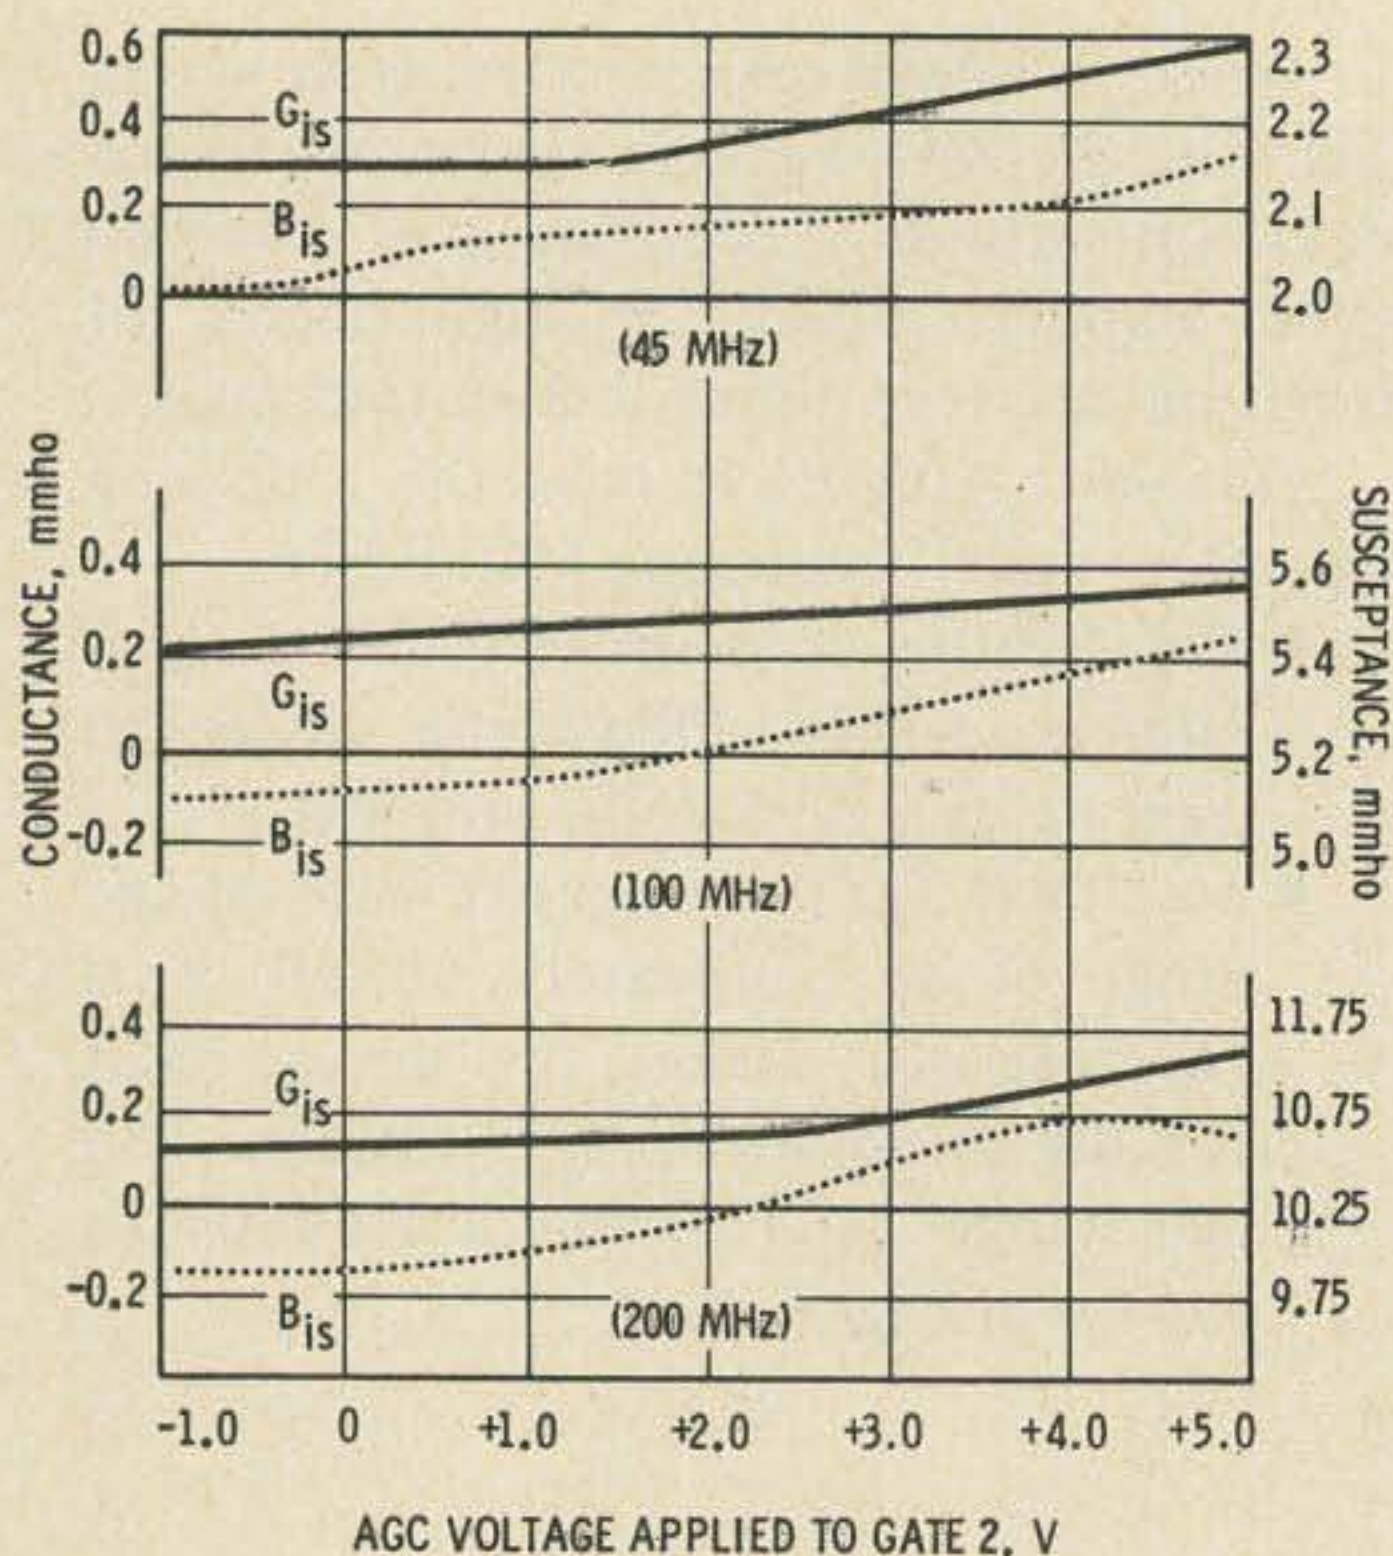

Fig. 3. Admittances of the FT0601 as a function of agc voltage.
- Uniform and fixed input and output conductances, which do not change greatly with the agc voltage. This can be seen in Fig. 3, which shows the